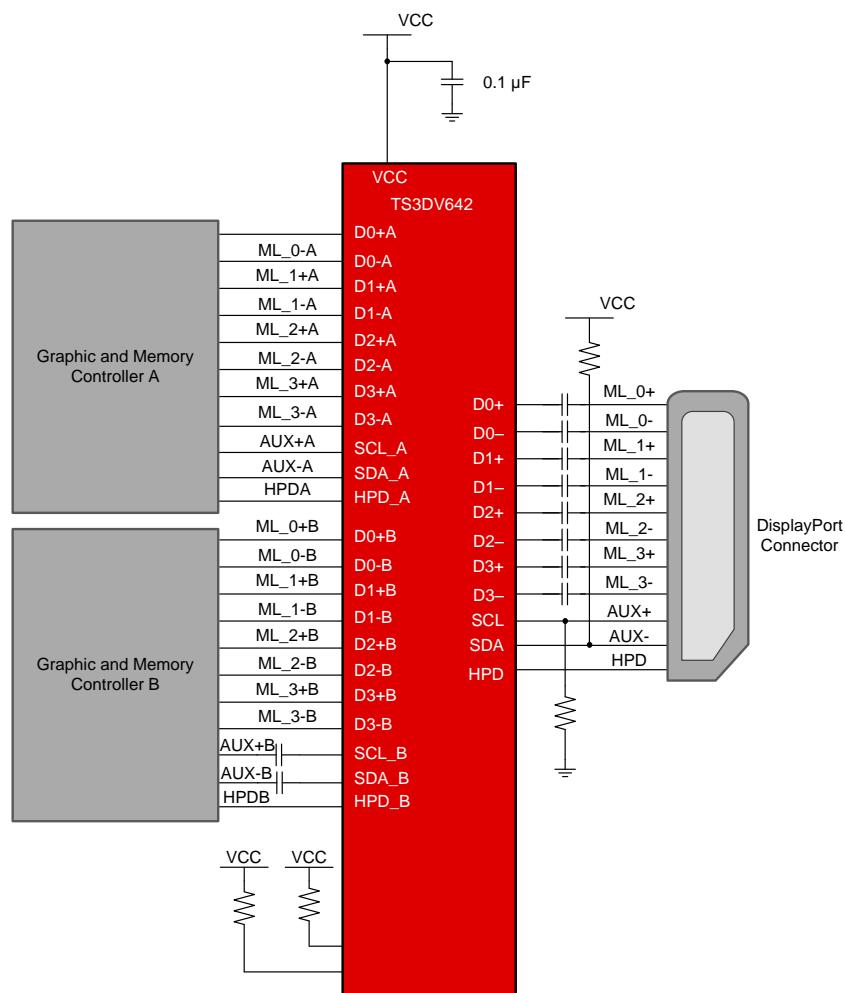
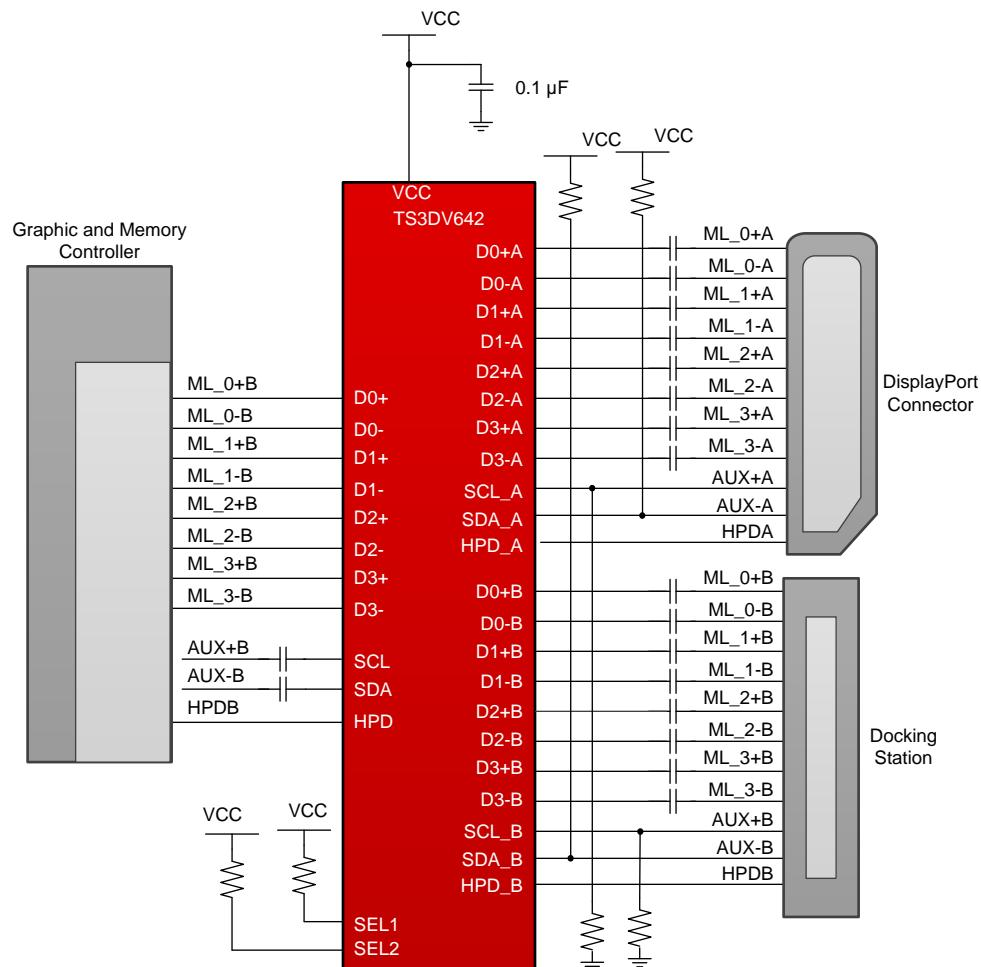

Figure 21. Display Port Schematic
Figure 24. Docking Application Schematic
TS3DV642 can be used for two typical DisplayPort applications. Figure 21 describes a DisplayPort (DP) application where TS3DV642 is used to switch between two different graphic & memory controllers on a single DP connector. Figure 24 shows a docking application where TS3DV642 is used to switch signals from a single graphic and memory controller to a display port and docking station connector. Note that the TS3DV642 is not designed for passing signals with negative swings; the high-speed signals need to be properly DC biased (usually ~ 1 V from the graphic controller side) before being passed to the TS3DV642.